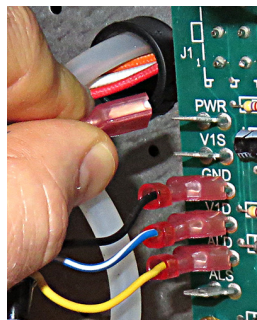

Figure 4
7. Disconnect the module harness connectors from the interface board (see Figure 4).